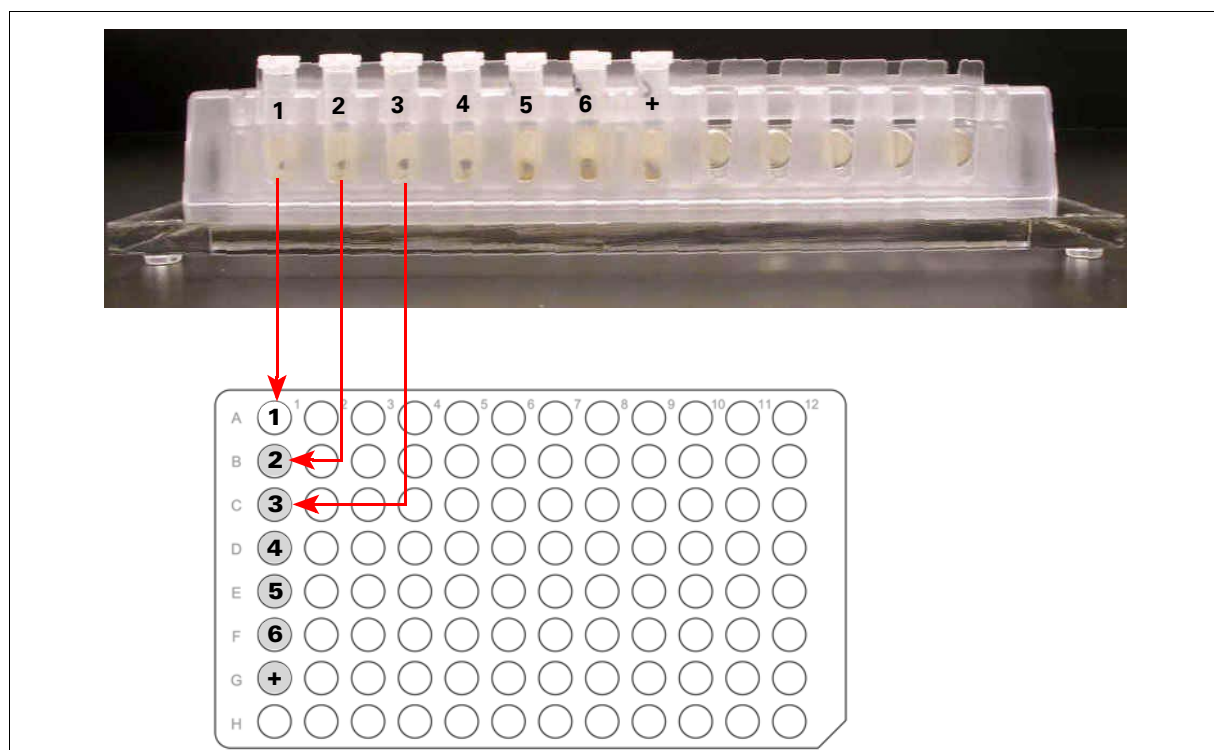

Figure 4.21 Transferring each purified sample to a fresh 96-well plate.
8. Transfer 47 μ L of eluted sample to the appropriate well on a fresh 96-well plate (Figure 4.21 on page 57).